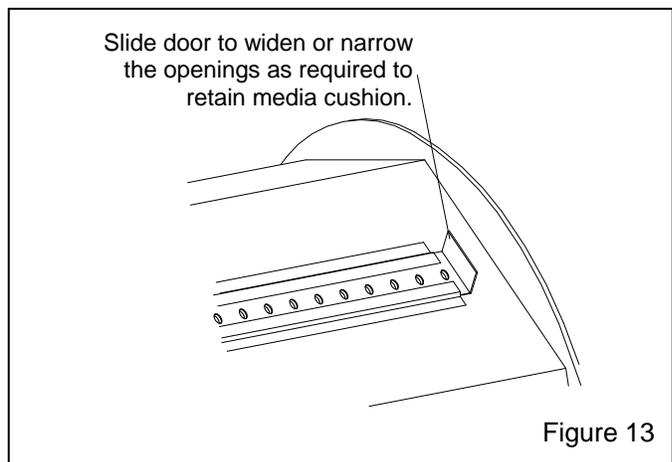

Figure 13
5.7 Tumble Barrel Slide Doors, Figure 13